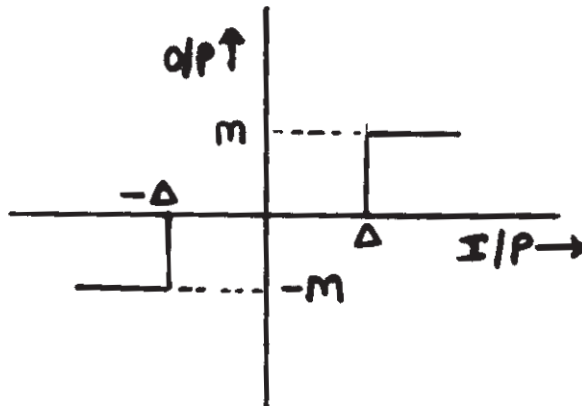

fig 7b
**b)** Obtain the describing function for the ON-OFF nonlinearity with dead zone shown in Figure 7b. [8]